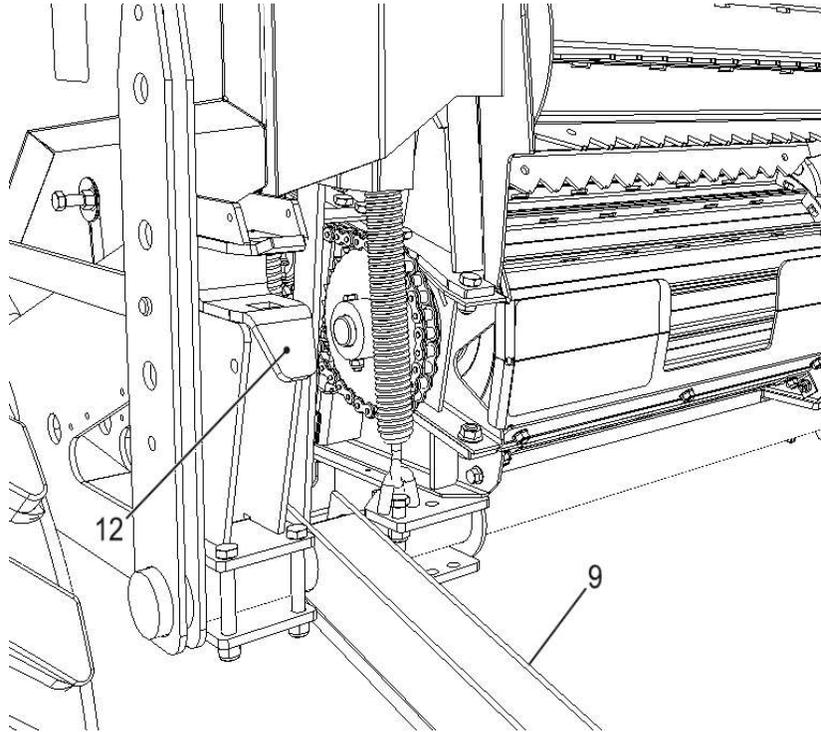

Figure 56 Header attach points
STEP 2 - FIGURE 56
Move the harvester towards the header slowly while ensuring the pivots receptacles (item 12) are aligned with the header brackets (item 13, Figure 56 Header attach points).